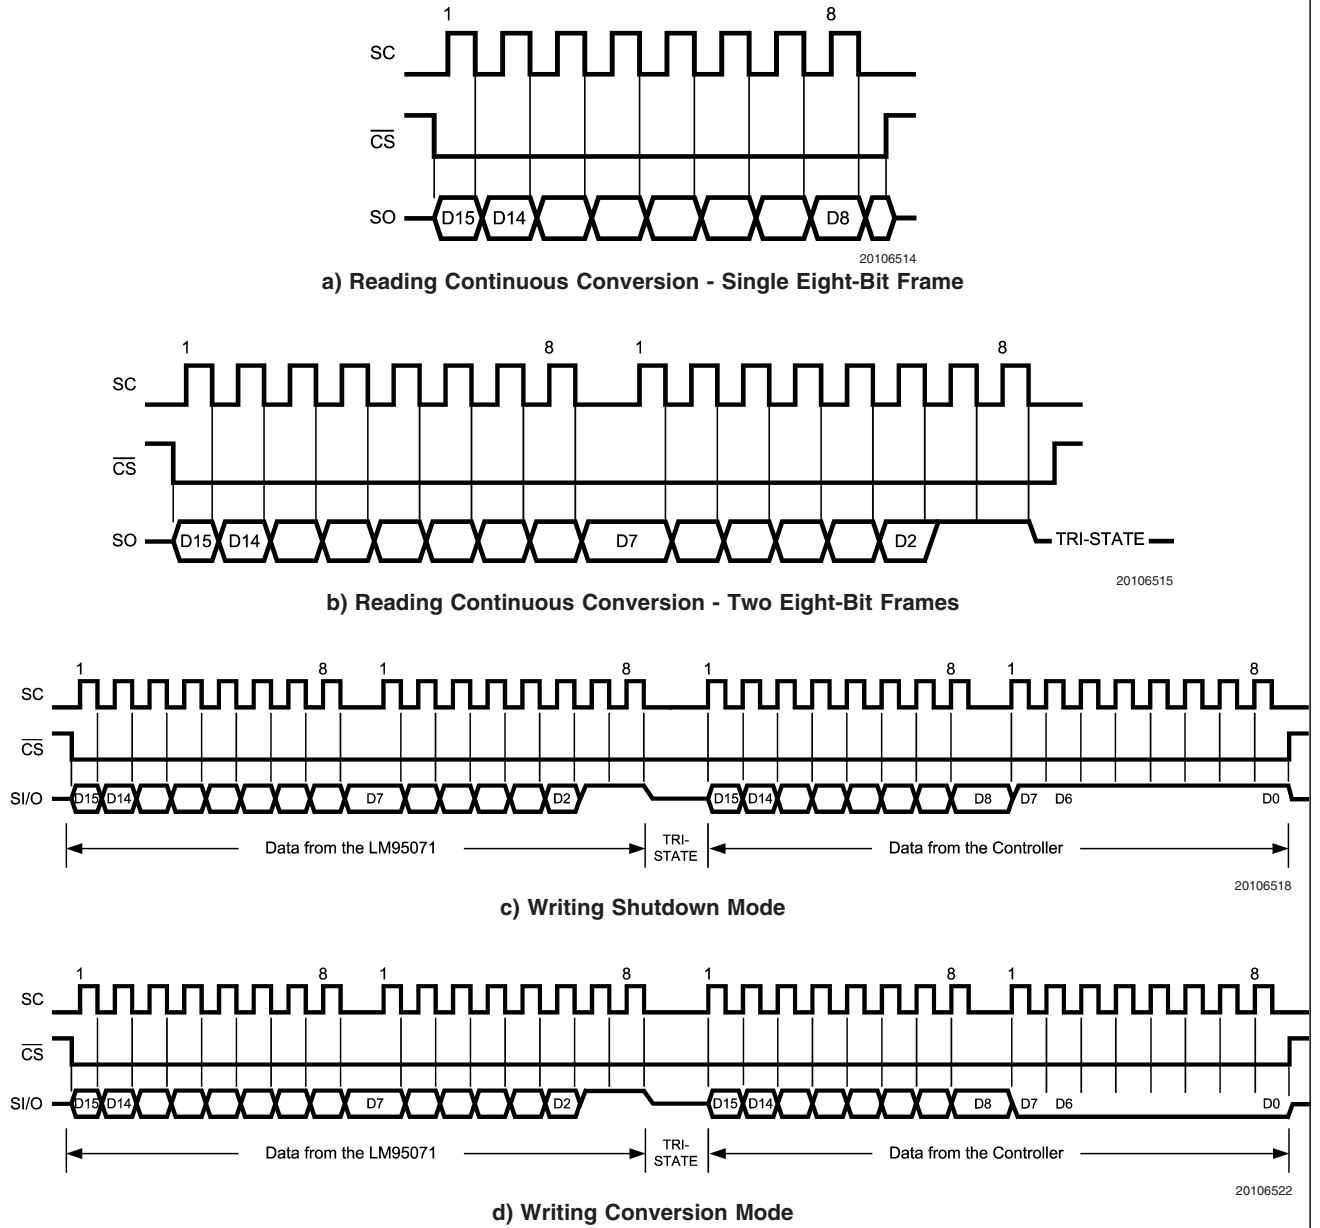

FIGURE 7. Timing Diagrams
The LM95071 operates as a slave and is compatible with SPI or MICROWIRE bus specifications. Data is clocked out on the falling edge of the serial clock (SC), while data is clocked in on the rising edge of SC. A complete communication is framed by falling and rising chip select ($\overline{CS}$) signal. The $\overline{CS}$ signal should be held high for at least one clock cycle (160 ns minimum) between communications. The transmit-only communication (register read) consists of 16 clock cycles. A complete transmit/receive communication will consist of 32 serial clocks (see Figure 7). The first 16 clocks comprise the transmit phase of communication, while the second 16 clocks are the receive phase.